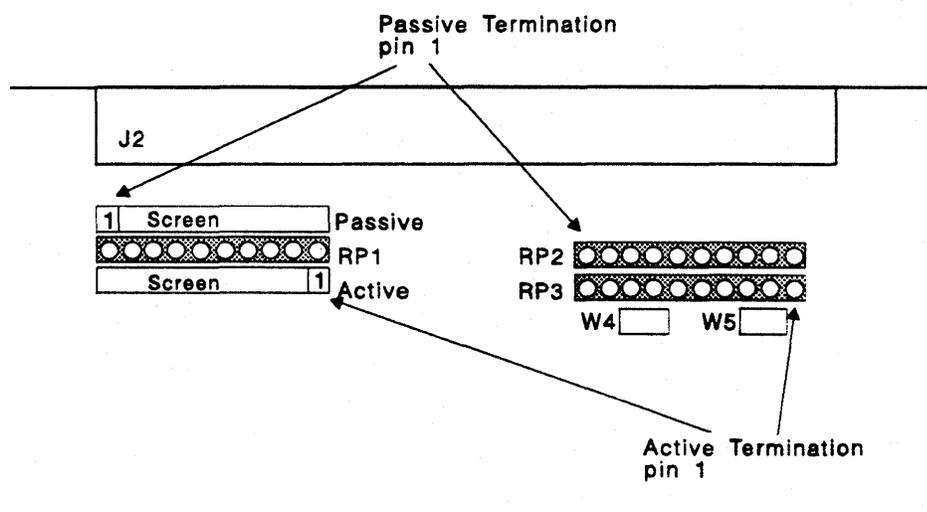

Figure 3-5: Pin 1 location for single-ended termination
- 3 Install all passive resistors into RP1, RP2, RP3; final numbers on the resistors must read 221331. All resistor pin 1's must align *to the left* as shown in Figure 3-5. [Active resistor numbers end in 111 and pin 1's align *to the right*.]
Single-ended Active—The CQD-440 uses active removable terminators for single-ended SCSI. Active termination provides greater noise immunity and more closely matches the cable impedance. The part number for the sips are xxx111 (9 by 110-ohms). They are located in the RP1, RP2, and RP3. See Figure 3-5 for details.